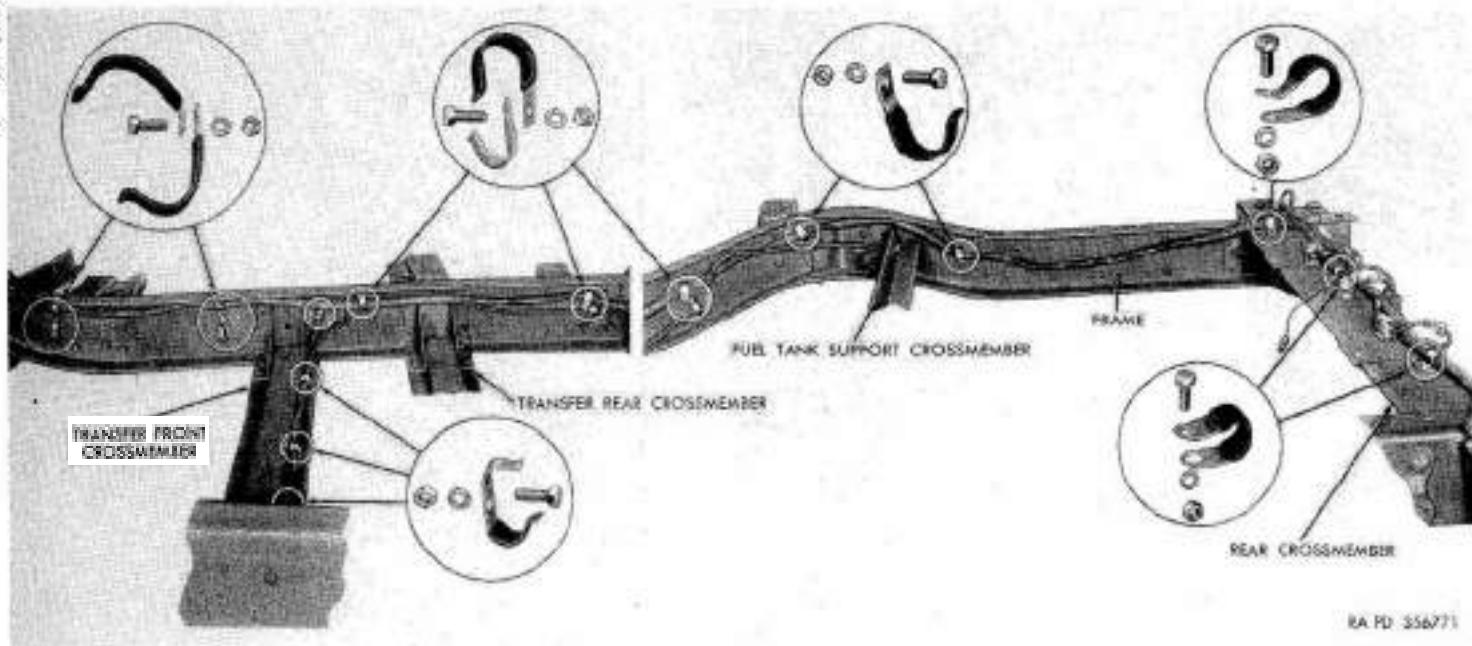

Figure 39. Wiring harness and brake line disconnect points.
- (2) Remove wiring harness from frame right side rail, frame transfer front cross member, and frame rear cross member clips (*fig. 39*). Remove harness and clips. Remove three open-tension-type clips at frame rear cross member (F, *fig. 37*).
- (2) Position wiring harness in frame right side rail, across transfer front cross member and rear cross member (fig. 39).
- (3) Insert a $\frac{7}{16}$ -20NF x $1\frac{1}{2}$ cap screw for the running board rear hanger (head of screw inside) through each frame side rail, just below upper flange, between the transfer rear cross member gussets. Insert a $\frac{7}{16}$ -20NF x $1\frac{1}{4}$ cap screw through upper rear hole in frame left side rail (head of screw inside) for running board front hanger.